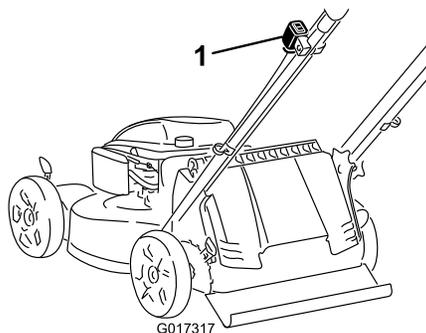

Figure 14
1. If the ignition switch on your machine (Figure 14) is a toggle switch (with both an “I” and a “Stop”), push the switch to the (“I”) position. Otherwise, go to step 2.